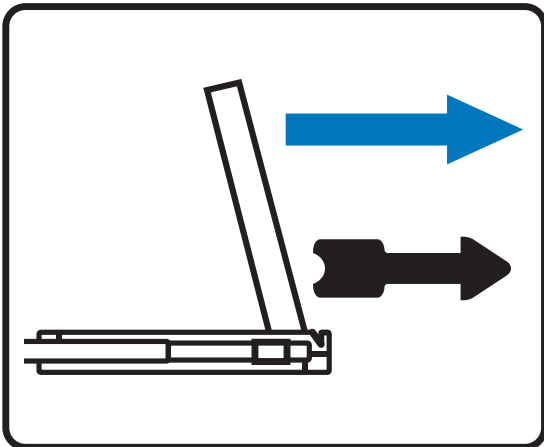

Figure 13.
- Pull and hold the black arrow button on either side of the LCD drawer to unlock. (shown in **Figure 13**).